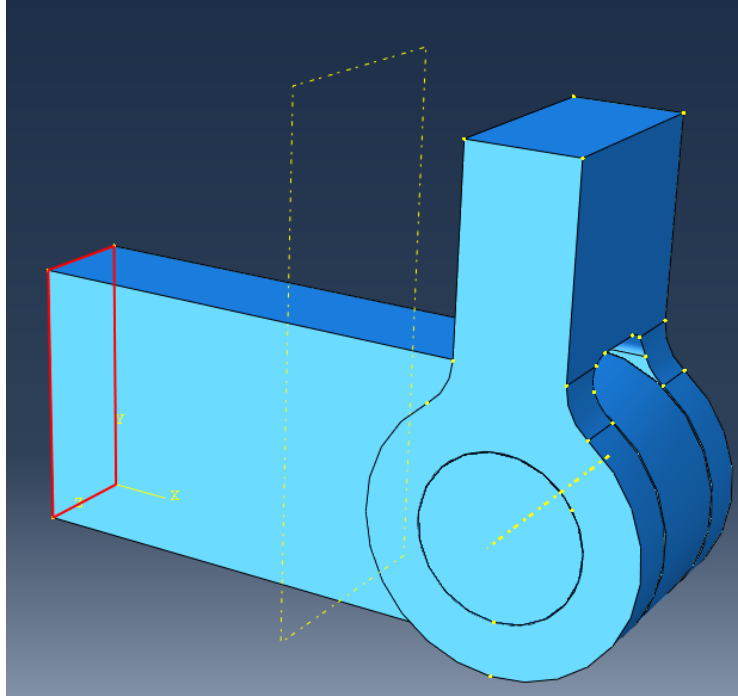

Figure W1–10 Correct face selected.
3. In the select options box  **All**  **Closest to the Screen**  so that you can pick the desired face, as shown in Figure W1–10.